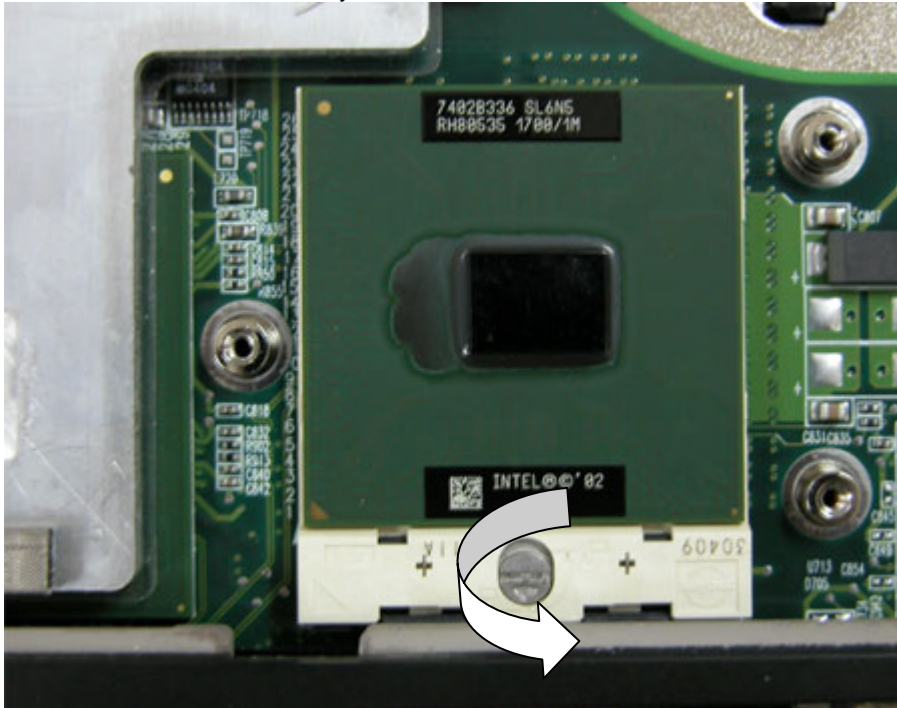

Fig. 14 Unlocking the CPU
3. Unlock the CPU and carefully remove it from the CPU socket as shown in Fig. 14